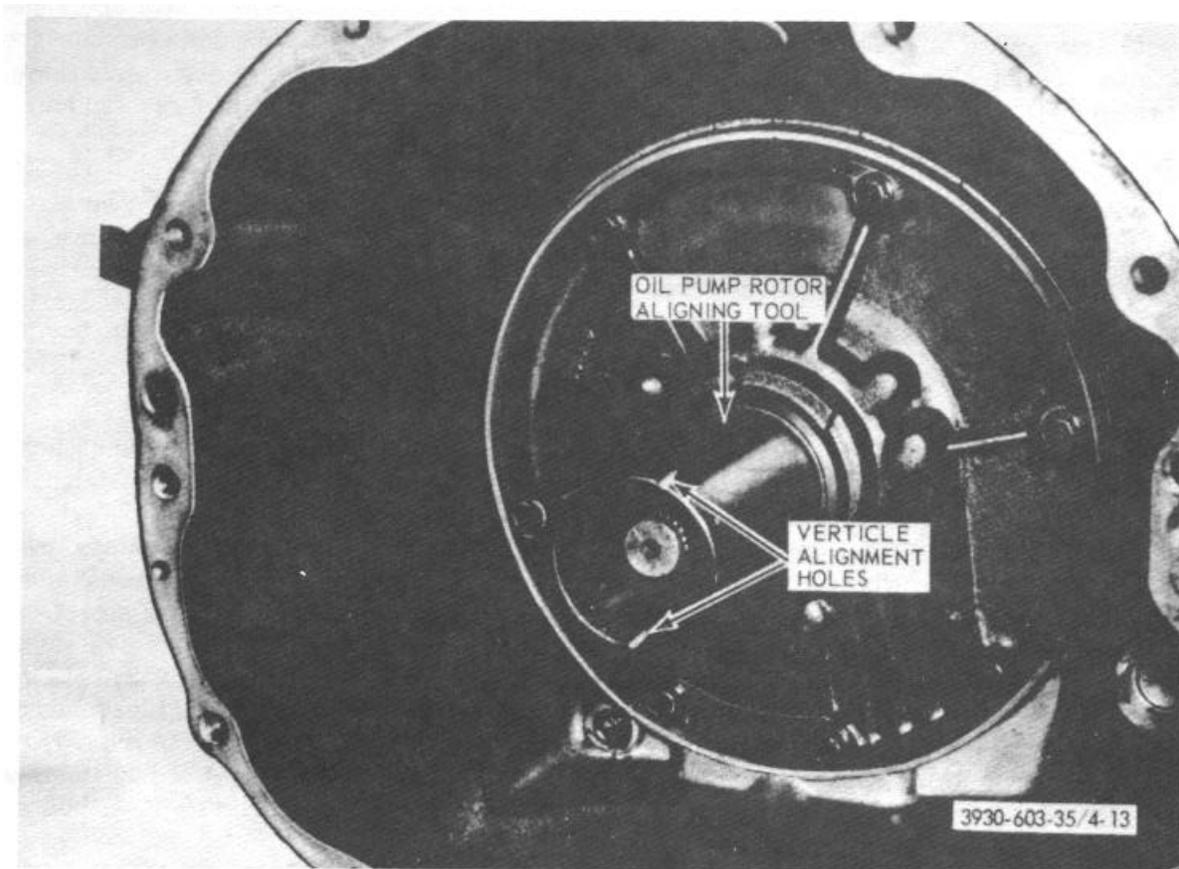

Figure 4-13. Aligning oil pump rotors.
- a. Rotate pump rotors until two small holes in tool handle are vertical as illustrated in figure 4-13.